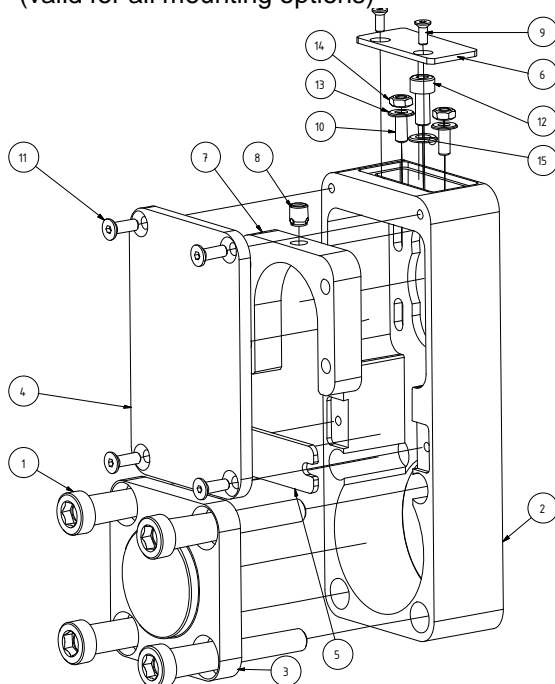

Figure 31: Parallel housing
- ◆ Loosen and remove 4 screws (please refer to Figure 31: Parallel housing Pos.1).
- ◆ Remove lid (please refer to Figure 31: Parallel housing Pos.3).
- ◆ Remove bar (please refer to Figure 31: Parallel housing1 Pos.5).
- ◆ Insert bar (please refer to Figure 31: Parallel housing Pos.5).
- ◆ Position lid (please refer to Figure 31: Parallel housing Pos.3).
- ◆ Apply screw adhesive "Wiko 02K43 medium" to 4 screws (please refer to Figure 31: Parallel housingPos.1) and tighten slightly.
- ◆ Align housing (please refer to Figure 31: Parallel housing Pos.2) with the electro cylinder.
- ◆ Tighten 4 screws (please refer to Figure 31: Parallel housing Pos.1) with the given tightening torque.
- ◆ Mount lid (please refer to Figure 31: Parallel housing Pos.6) with screws (please refer to Figure 31: Parallel housing Pos.9).
- ◆ Mount lid (please refer to Figure 31: Parallel housing Pos.4) with screws (please refer to Figure 31: Parallel housing Pos.11).